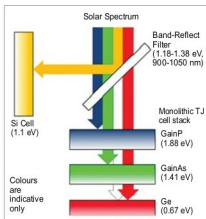

Fig. 4: Concept of a triple-junction cell that targets discrete bands of incoming sunlight using a combination of three layers
Researchers of the University of New South Wales, Australia, have developed a mini-module that combines a silicon cell on one face of a glass prism, with a triple-junction (TJ) solar cell on the other, as shown in Fig. 4. This research has achieved the world record for the highest efficiency, which is approximately 34.5 per cent. This novel model was also tested and confirmed by US National Renewable Energy Laboratory.